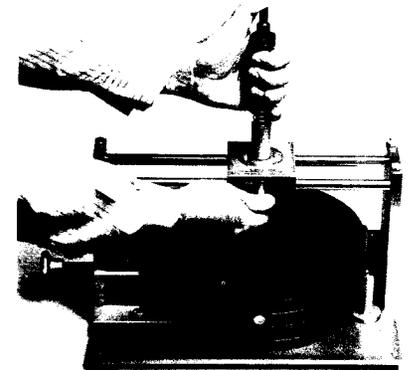

Figure 11 — Centering the Cutter Blade
6.06 Loosen lock screw in bearing block. Lower shaft until center point of cutter blade is on desired position for center of hole. Hand tighten lock screw in bearing block. (Fig. 11).